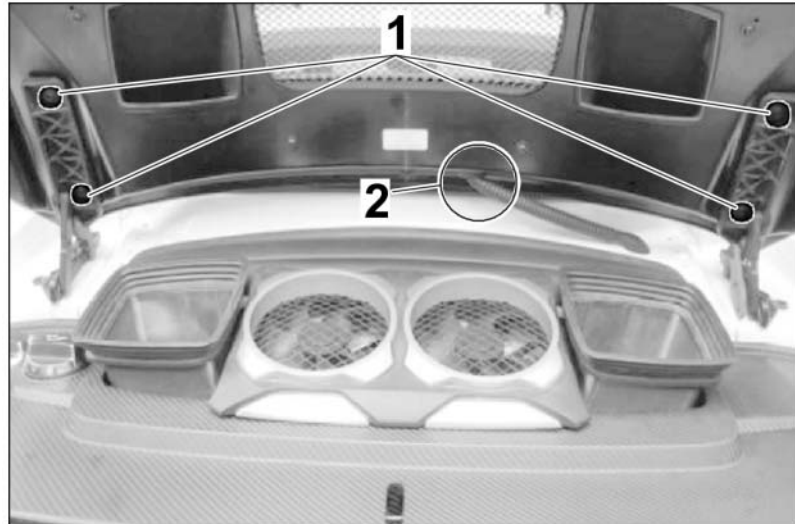

Fig. 69 (sample illustration)
40. – Fasten the rear cover with the standard screws ⇒ Fig. 69 (sample illustration)-1-. Insert the standard wiring harness for the third brake light through the opening in the rear cover ⇒ Fig. 69 (sample illustration)-2-. Check that the rubber sleeve is installed correctly. Close the rear cover and, if necessary, correct the gap dimensions at the transitions to the adjacent body parts. **Screw: Tightening torque 10 Nm (7.4 ftlb.)**